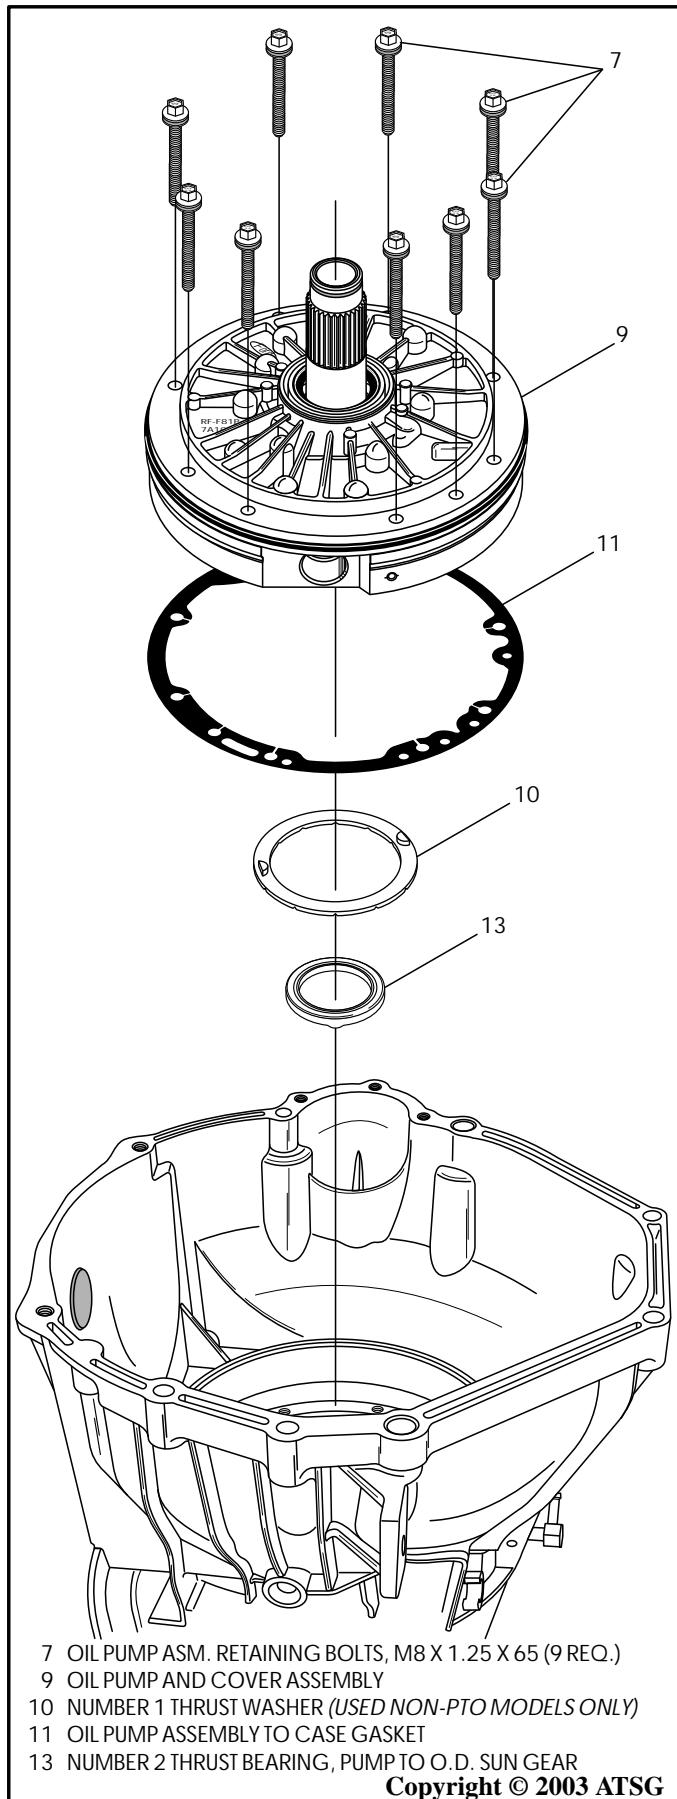

Figure 57
1. Remove the nine oil pump assembly retaining bolts, as shown in Figure 57.
3. Using two slide hammers, remove the oil pump assembly, as shown in Figure 57, and set aside for the component rebuild section.
4. Remove and discard the oil pump assembly to case gasket, as shown in Figure 57.
5. Remove the number 1 thrust washer, as shown in Figure 57, which may be stuck to oil pump assembly.
6. Remove the number 2 thrust bearing, as shown in Figure 57, which may be stuck to oil pump assembly.